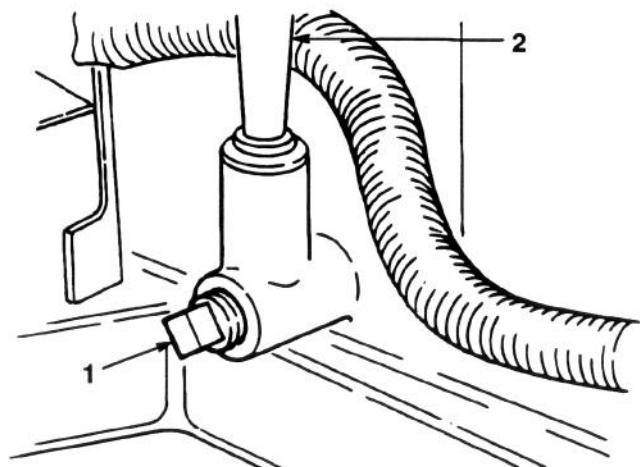

Figure 33
- Place a pan below the oil dipstick/fill tube and remove the drain plug (Fig. 33).